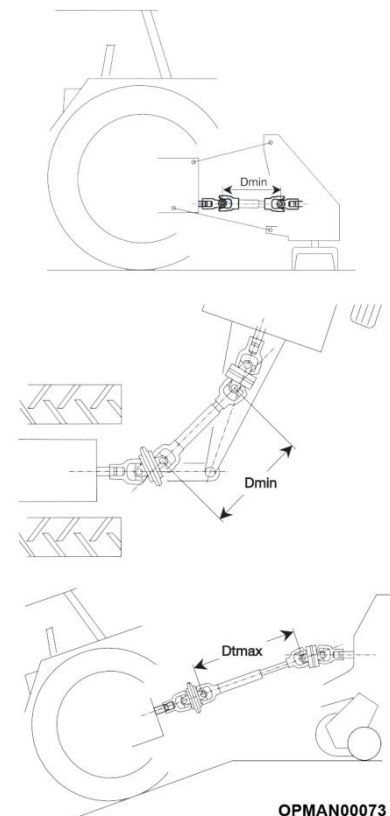

Figure 3.4 – Max/min Input Shaft Overlap
- 3.3.3.1 With the input PTO shaft attached, place the tractor and machine on the steepest slope possible, Dmax (see Figure 3.4).
- 3.3.3.6 With the input PTO shaft attached, lower the machine on the tractor's three-point linkage, Dmax (see Figure 3.4).
- 3.3.4.6 Check the length of the driveshaft at the minimum and maximum positions of the machine. See Figure 3.4 for guidance on Dmin/Dmax lengths.